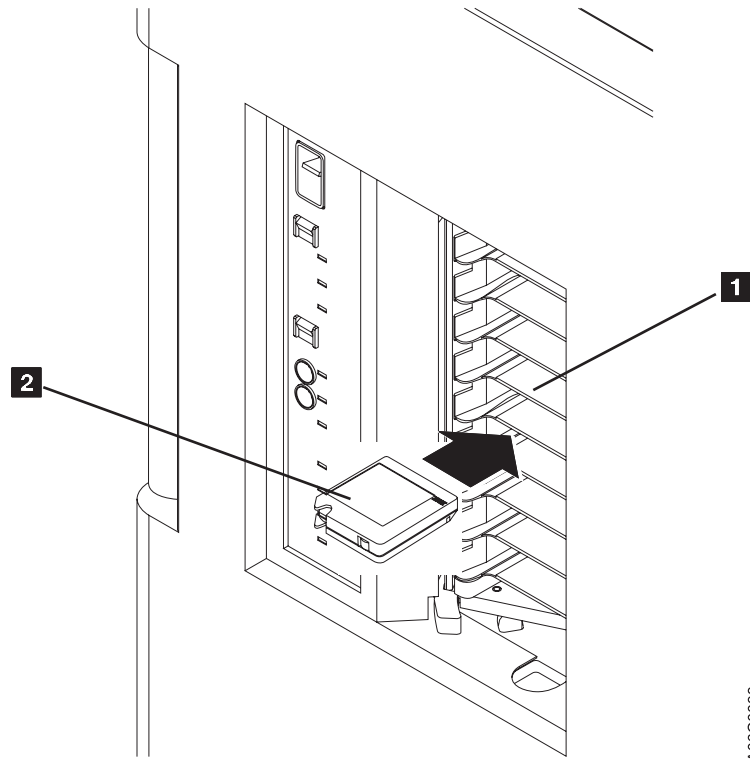
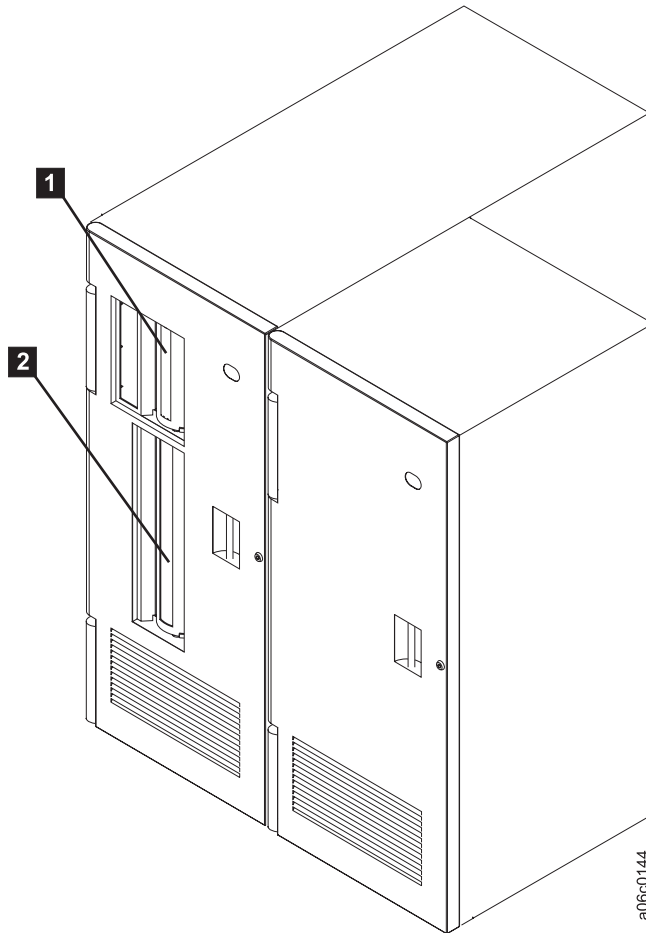

Figure 45. Inserting Cartridges in the Convenience I/O Station
Figure 46. Optional 30 Cartridge Convenience I/O Station
Note: Figure 45 on page 99 shows the optional 10-cartridge convenience I/O station. Figure 46 on page 101 shows the optional 30-cartridge convenience I/O station. If the 30-cartridge convenience I/O station is installed, the operation remains the same, but there are two operator doors. The upper operator door **1** provides access to the upper ten cartridge cells. The lower operator door **2** provides access to the lower 20 cartridge cells. (Both doors open together.)
2. Insert the cartridges (**2** in Figure 45 on page 99) that you want to add to the 3494 into the convenience I/O station **1** with the cutoff corner (and leader block) to the left and the external label facing to the **inside** of the convenience I/O station. Shut the convenience I/O station door.